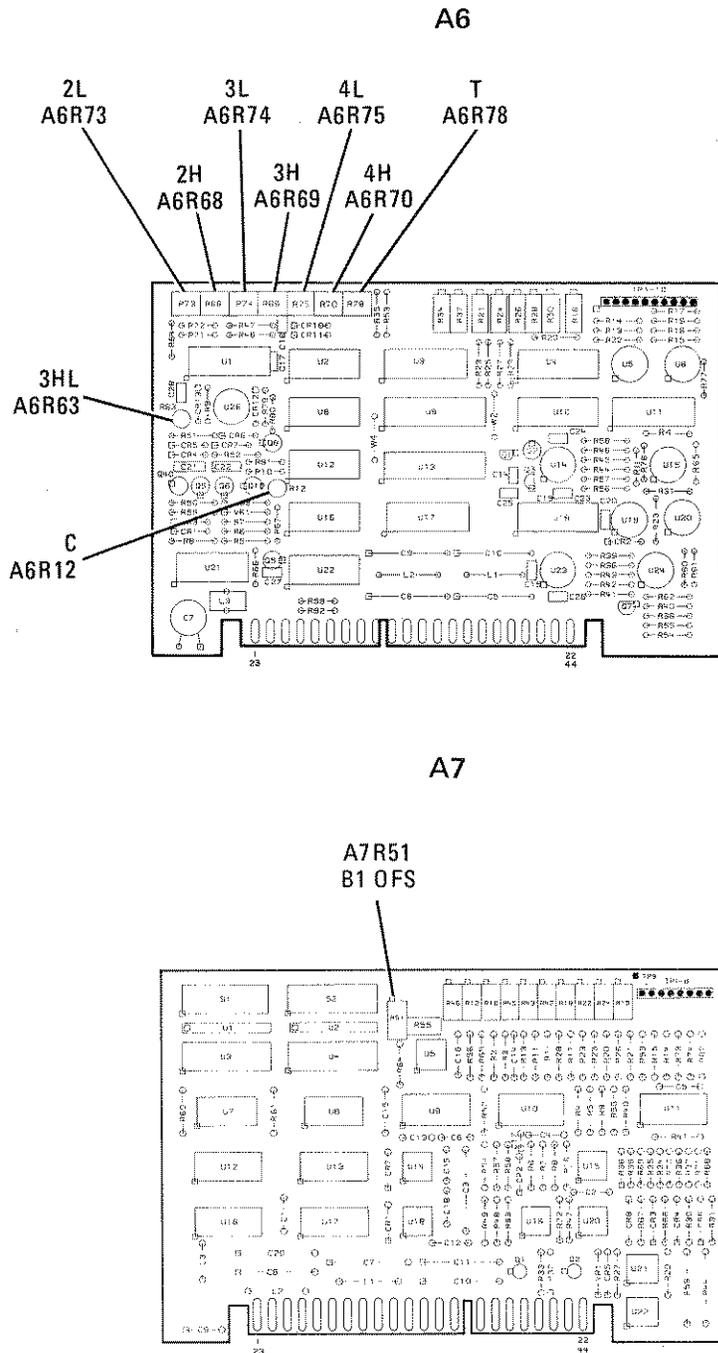
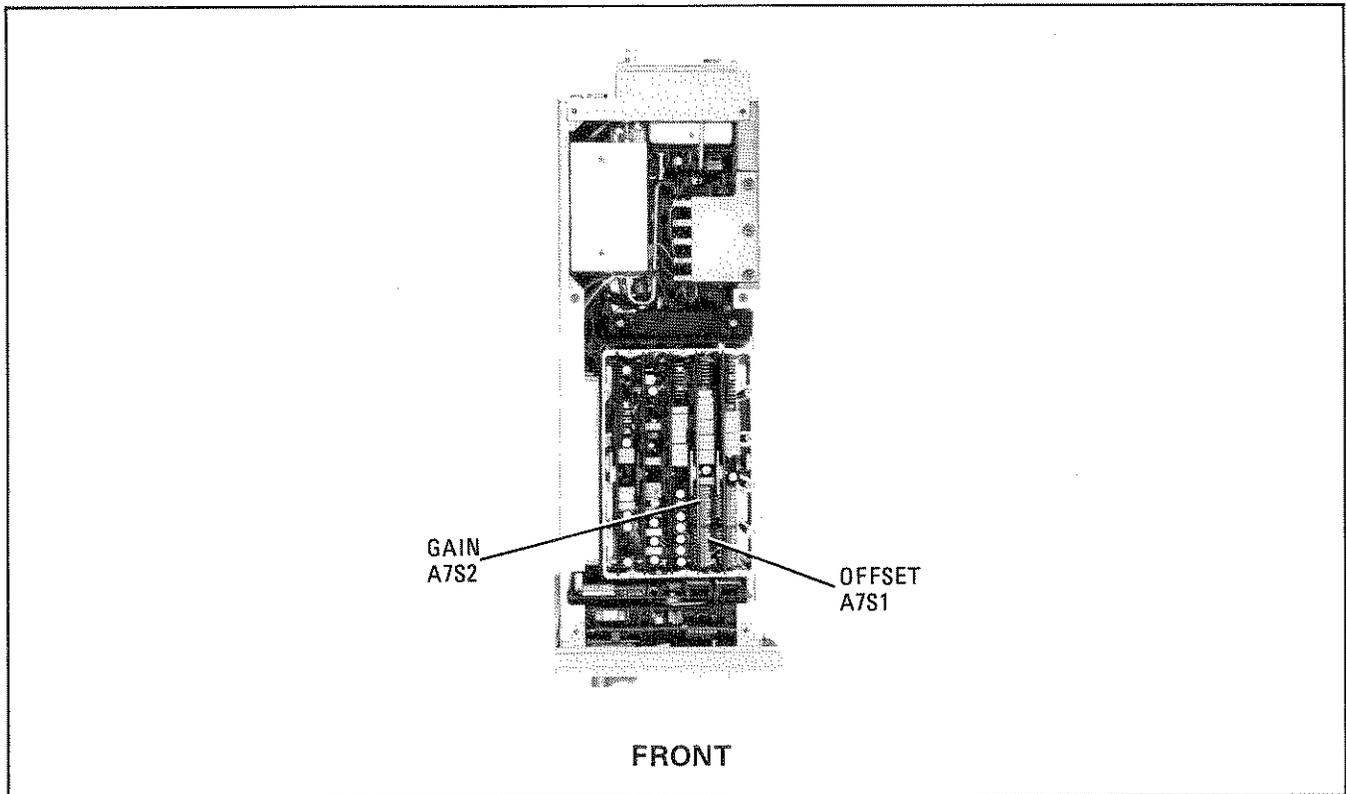
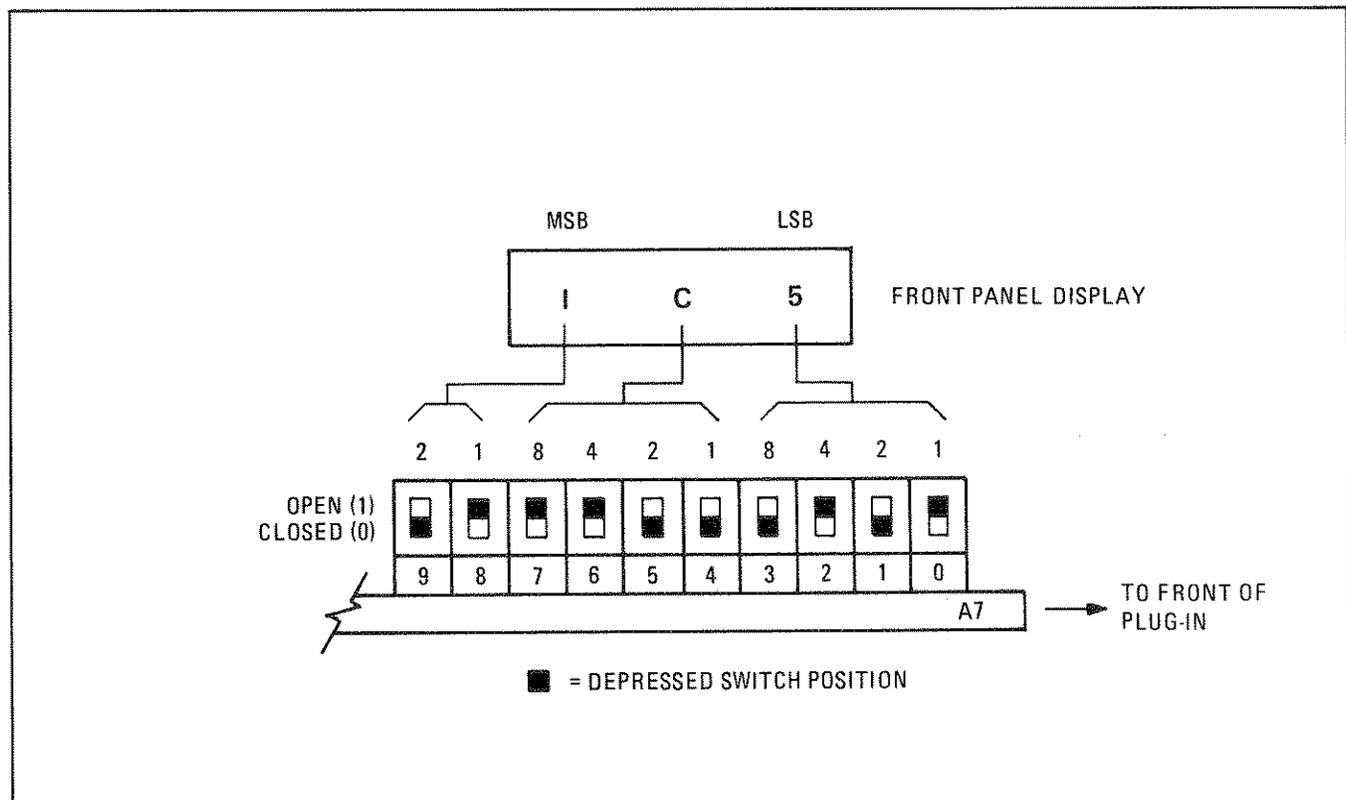

Figure 5-18. Slow Speed YTM to YO Tracking Adjustment Locations
Figure 5-19. YTM to YO Tracking Calibration Switch Locations
Figure 5-20. YTM to YO Tracking Calibration Switch Configuration
3. Preset A6R63 (3HL) to mid range. Refer to Figure 5-18 for adjustment locations.
4. Preset A6R78 (T) and A6R12 (C) one quarter turn from the full counterclockwise position.
7. Enter the number displayed on the 83595A **POWER** display into A7S1 as shown in Figure 5-20. Refer to Figure 5-19 for the switch location.
9. Enter the number displayed on the 83595A **POWER** display into A7S2 as shown in Figure 5-20. Refer to Figure 5-19 for the switch location.